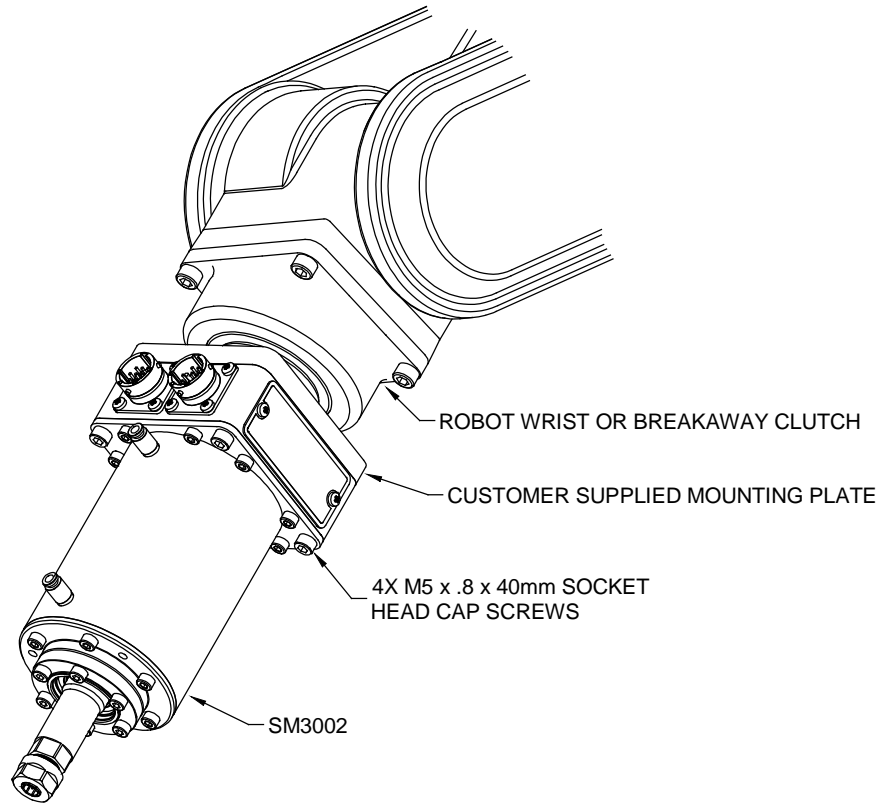

Figure 5. SM3002 Direct Mounting
To mount the SM3002, first attach the Mounting Plate to the Robot Wrist or to the Breakaway Clutch, per the manufacturer’s specifications. Once the Mounting Plate is secured, place the SM3002 against the Mounting Plate and install the (4) four, M5x.8x40mm, Socket Head Cap Screws. (See Figure 5.) Tighten the fasteners to the torque specified in Section 4.0.